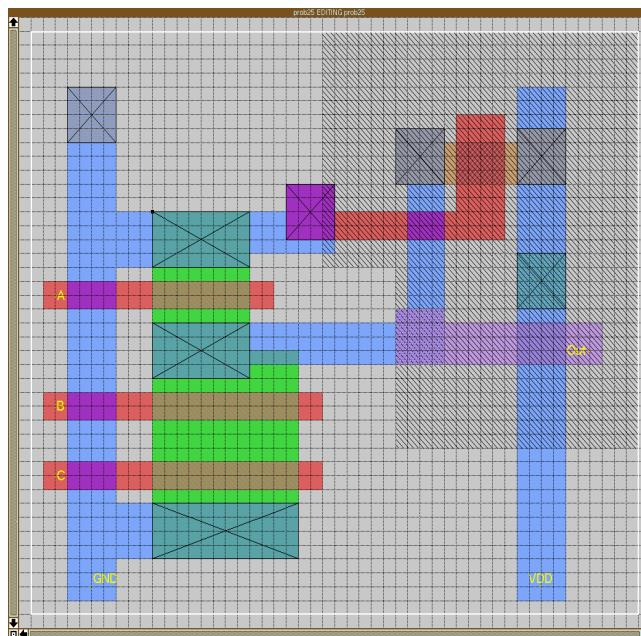

Figure 6.17 Layout of complex gate.
- 25.** [C, None, 4.2–3] For this problem, refer to the layout of Figure 6.17.